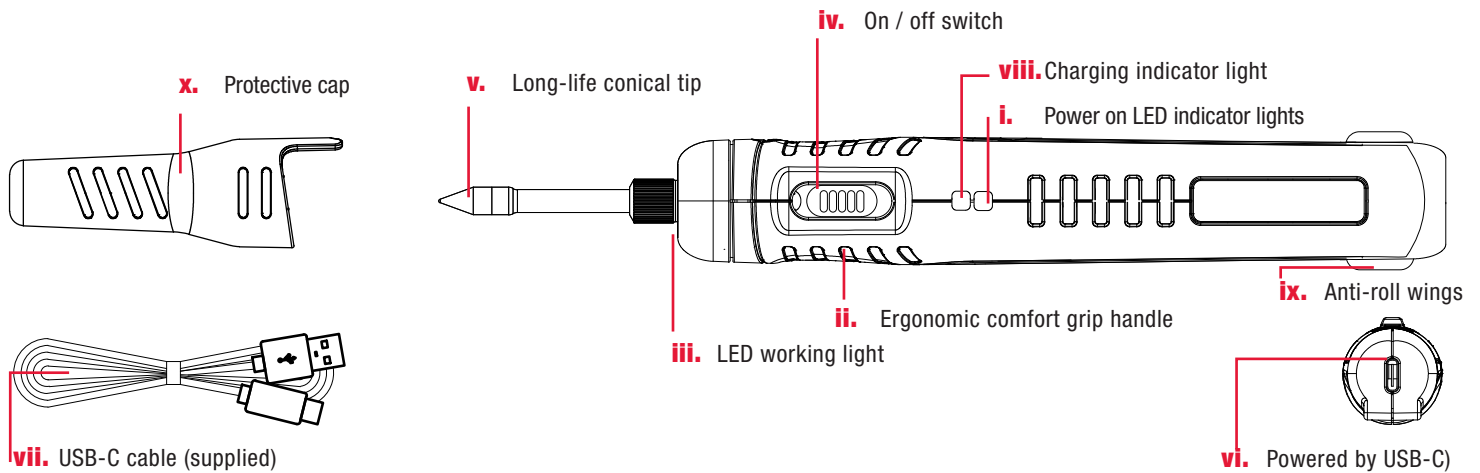

Fig. 1
- **Part no. 218012 - place protective cap (Fig.1 / x) over a cooled tip** locking switch in off position.
- When power to USB is switched on the Charging indicator light (Fig. 1 / viii) with light up.
3. Slide ON / off switch forward to turn on the Soldering Iron (Fig. 1 / iv).
- Solid Green - target temperature is reached. (Fig. 1 / vi)
10. To turn off the Soldering Iron, press the, turn off tool by pressing back the On / off switch (Fig. 1 / iv).
14. Once tip has cooled place its Protective cap (Fig. 1 / x) back on the Soldering Iron and store in a safe and dry space.